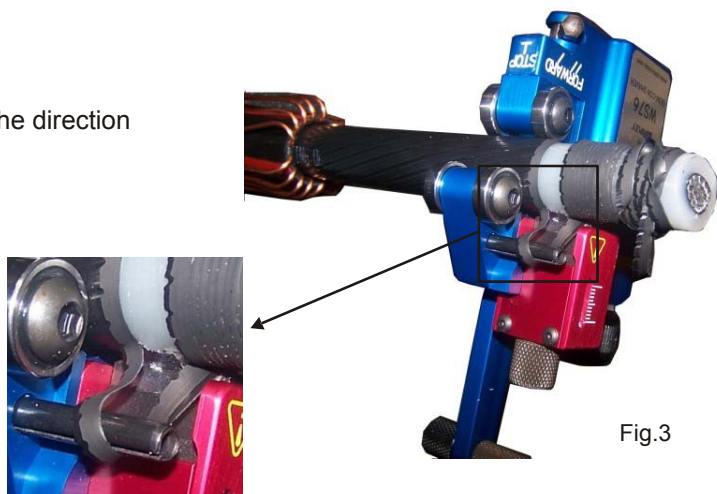

Fig.3
9. Observe the shaved semi-con strip during operation. During the shaving process, do not allow the strip to get caught under the cable rollers. This will disturb the shaving result. A convenient technique is to wind the shaved semi-con strip around the tool bar handle while shaving (Fig.2). Another option is to guide the strip around the shaved insulation using the winding pin. (See Fig.3 next page)